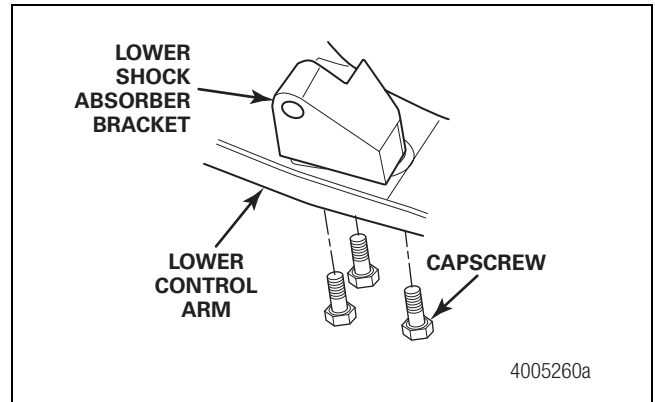

Figure 7.10
- Position the lower shock absorber bracket onto the lower control arm. Install the three capscrews that secure the lower shock absorber bracket to the lower control arm. Tighten the capscrews to 180-188 lb-ft (245-255 N•m). Figure 7.10.